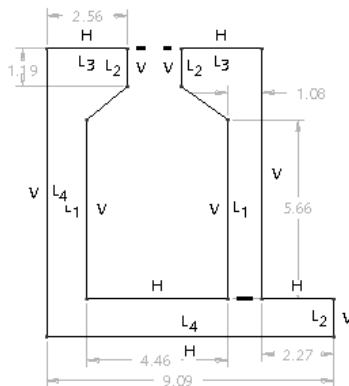

Figure 2-30 Sketch with weak dimensions and constraints
- Draw the sketch by using the line tool, refer to Figure 2-30.
7. Select the vertex that is joining lines L and M and the vertex that is joining lines G and H. Both the vertices are aligned horizontally, as shown in Figure 2-30.